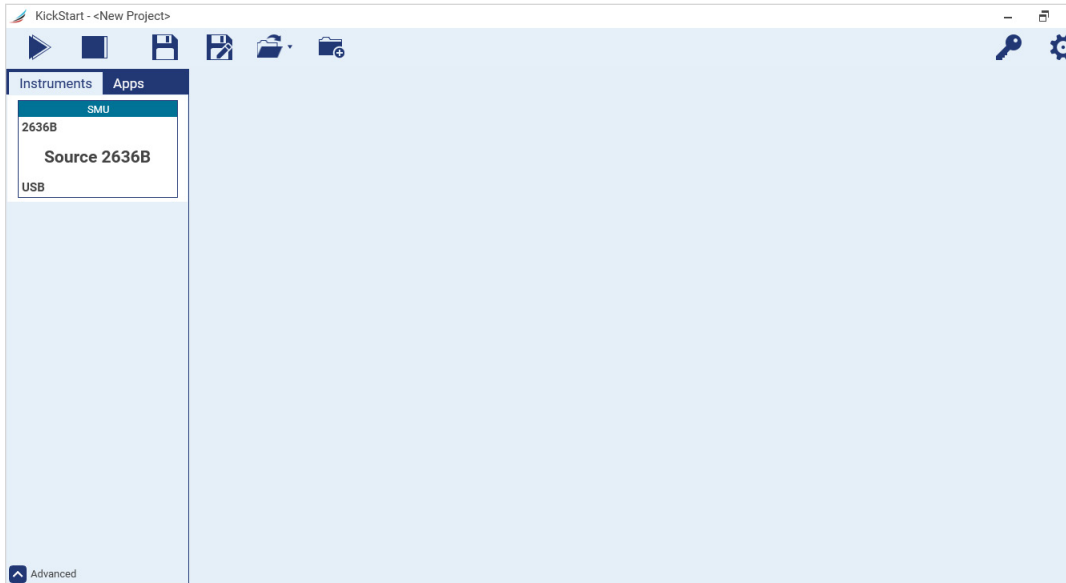

Figure 7: KickStart software startup page.
1. Launch the KickStart software. The startup screen is displayed, as shown in **Figure 7**.